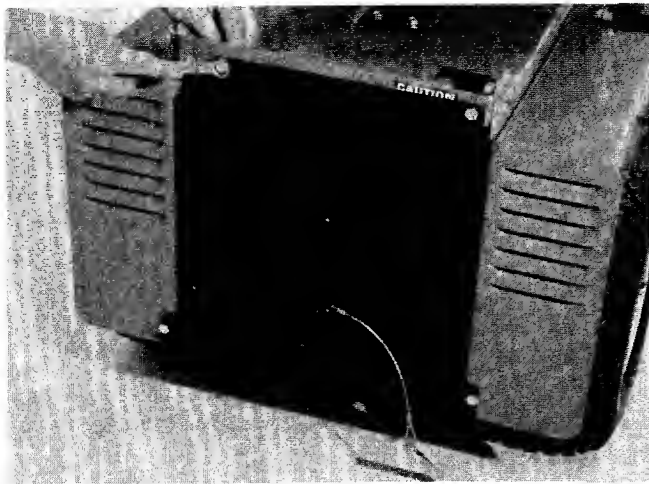

FIGURE 23.
3. Place the rear hitch plate against the discharge opening of the rider. Attach with four 5/16" screws, lock washers and nuts. See figure 23.